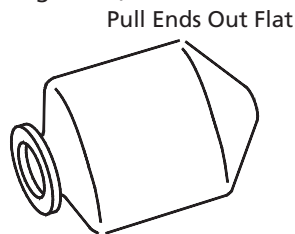

Figure 20 – Force All Air Out of Bladder
- Place bladder on clean surface with opening to one end and flatten to force air out. Pull ends out flat (See Figure 20).